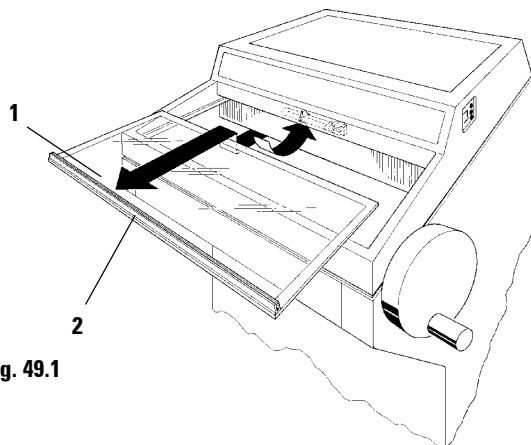

Fig. 49.1
- Slightly lift the sliding window when closed holding it at the grip provided and pull it out to the front (**Fig. 49.1**) - see '**9.3.6 Replacement of the lamp**'.